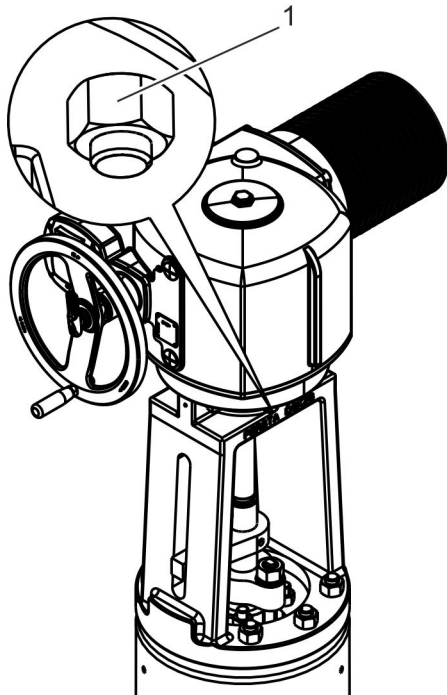

Fig. 31: Removing the bolts
2. ➔ Unscrew and then remove the fastening screws (Fig. 31/1) of the electric actuator.
3. ➔ Remove the electric actuator (Fig. 31/2) and store it outside the work area.